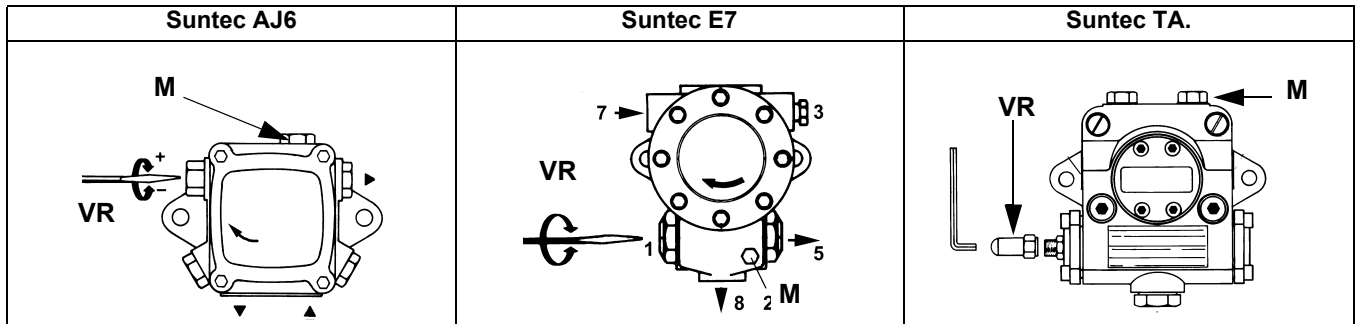
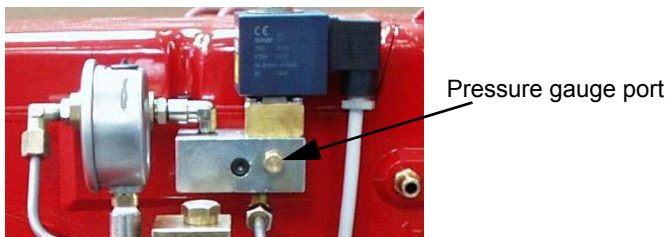

Fig. 27
Fig. 28
- 3 bleed the air from the **M** pressure gauge port (Fig. 27) by loosening the cap without removing it, then release the contactor.
- 5 the nozzle supply pressure is already factory-set and must not be changed. Only if necessary, adjust the supply pressure as follows (see related paragraph); insert a pressure gauge into the port shown on Fig. 28 and act on the pump adjusting screw **VR** (see Fig. 27) as to get the nozzle pressure at 20bar (Monarch or Fluidics nozzles - see page 37-38).